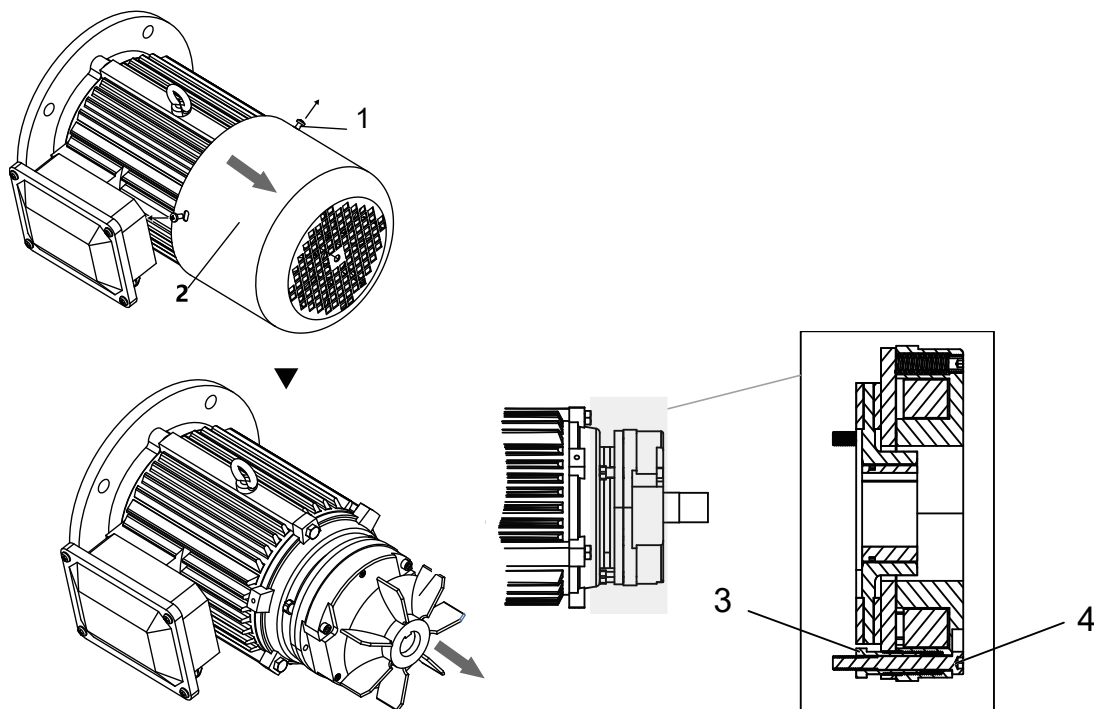

Fig. 6-22
- 1) See Fig. 6-22 loosen the retaining bolts ① and remove the fan cover ②;
- 2) See Fig. 6-22 loosen the installing screw ③ and then adjust the hollow nut ④ to the proper position until the gap value is 0.6mm, and then tighten screw ③.